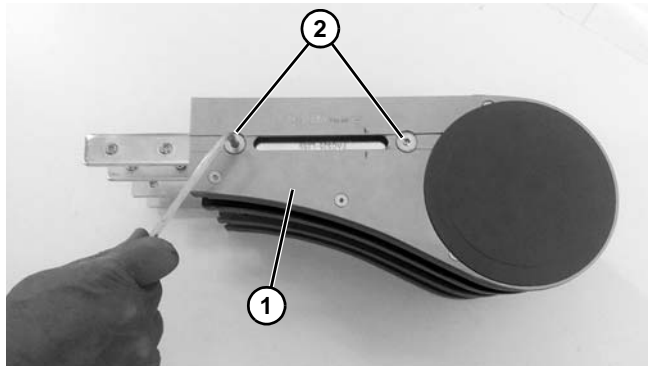

Figure 112
2. Remove outer plates (**Figure 112, item 1**) and connecting hardware by removing two screws (**Figure 112, item 2**) on both sides of the conveyor.